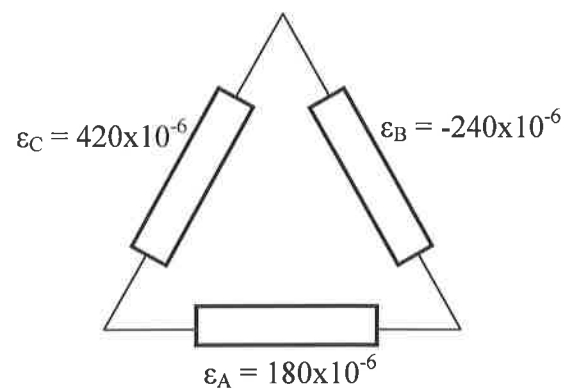

Figure Q3
3. A 60° delta strain gauge rosette attached to a the surface of a steel plate of thickness 10 mm. Under a particular loading, the strain readings are as indicated in Figure Q3.